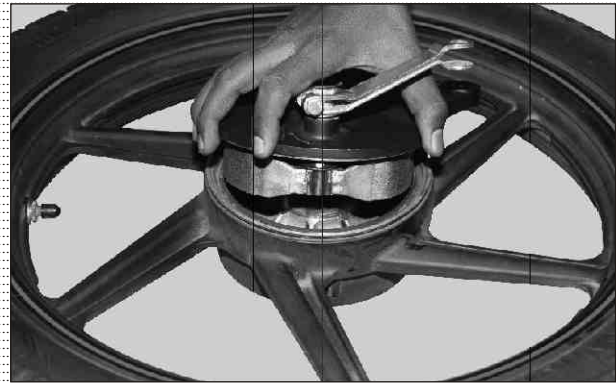

Fig. 2.86
- Take out panel assembly rear from the wheel assembly rear. (Fig. 2.86)